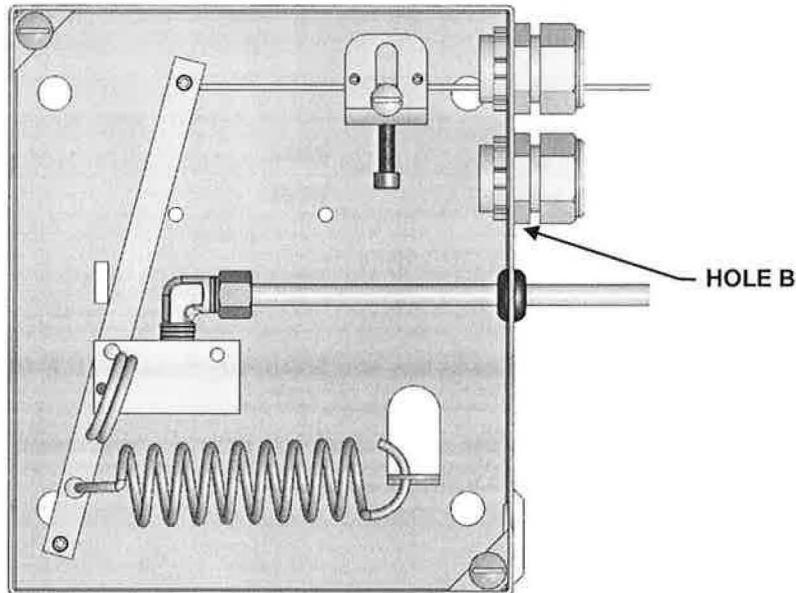

Figure 4-49. Dual SPDT Microswitch Installation
Refer to Figure 4-49 for alarm initiation wiring diagram.
2. Connect 1/2-inch (13 mm) EMT to hole "B" on the side of the A+ Control Box (Figure 4-49).